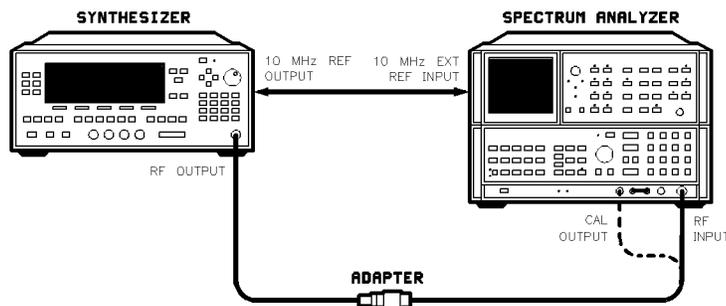

Figure 2-11. Spurious Signals (Non-Harmonic) Test Setup
1. Preset the instruments shown in Figure 2-11 and let them warm up for at least one hour.
3. Connect the equipment as shown in Figure 2-11.